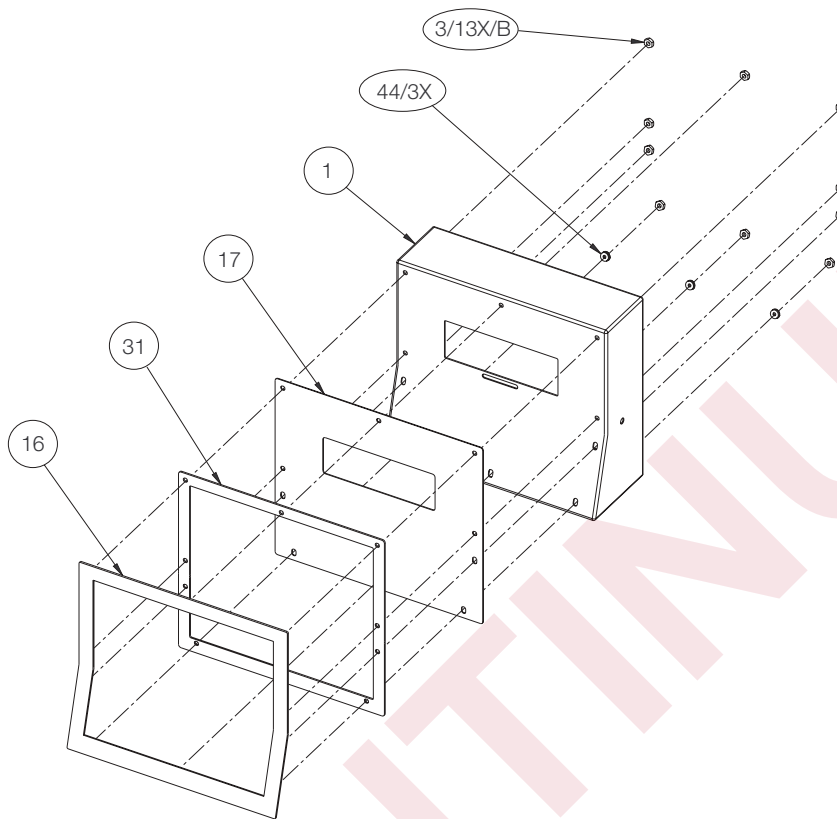

Figure 2-9. Bezel Assembly
| 1          | 41397  | Enclosure, sloped front (1)                       | Figure 2-9 on page 12  |
| 3          | 14626  | Kep nuts, 8-32NC hex (13)                         | Figure 2-9 on page 12  |
| 16         | 45402  | Bezel, sloped front (1)                           | Figure 2-9 on page 12  |
| 17         | 41385  | Switch panel membrane (1)                         | Figure 2-9 on page 12  |
| 29         | 14862* | Screws, 8-32NC x 3/8 (4)                          | Figure 2-9 on page 12  |
| 31         | 46252  | Bezel gasket, sloped front (1)                    | Figure 2-9 on page 12  |
| 39         | 45042* | Sealing washers (4)                               | Figure 2-9 on page 12  |
| 45         | 65981 | Brass spacer (1)                           | Figure 2-9 on page 12             |